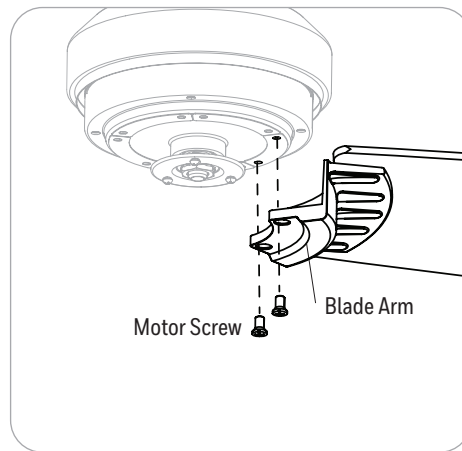

Figure 5.5
5. Install the blade arm to the underside of the motor assembly with previously removed motor screws. Tighten each blade arm completely before moving to the next (Figure 5.5).